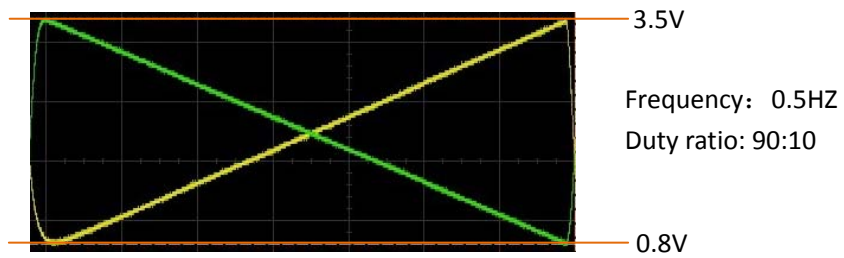
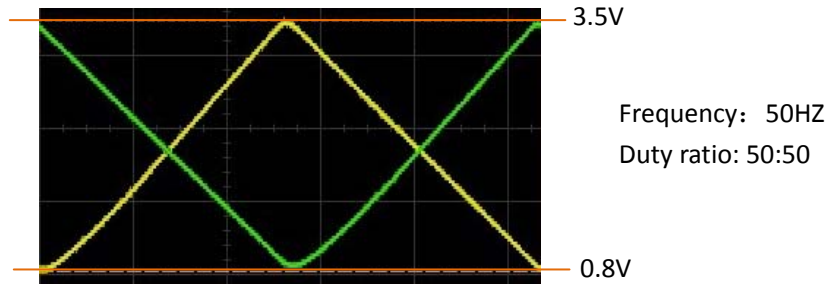
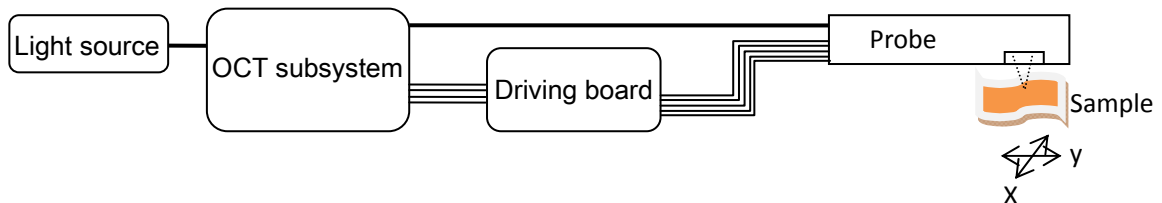
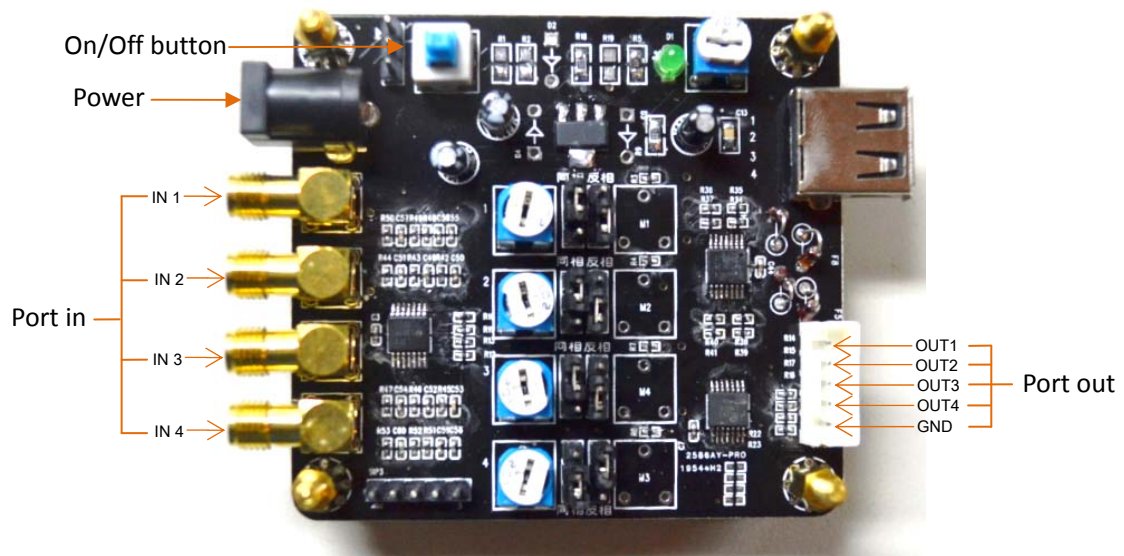

Fig. 3 Standard waveforms of A1 and A3 (A1 and A3 are out of phase)
Fig. 4 Standard waveforms of A2 and A4 (A2 and A4 are 180° out of phase)
Fig. 5 The use of the probe in an OCT system
Fig. 6 Driving control circuit board
2) At first, you need to generate four triangle or sine voltage waveforms, as shown in Fig. 3 and Fig. 4. This can be done either by a function generator or a data acquisition card. If you have any questions, please contact the technical support of WiO.
- 3) Here you have two choices. If you just want to check how the probe works, please skip step 4) and step 5), and directly connect the signals generate in step 2) to the probe. Please pay attention to the order of the signal lines. A1 and A3 should be connected to the voltage waveforms shown in Fig. 3, and A2 and A4 to the waveforms shown in Fig. 4.
- 4) If you want to connect this probe to an OCT system (as shown in Fig. 5), you can connect the four voltage waveforms to the ports IN 1-4 on the driving circuit board (as shown in Fig. 6). The functions of the driving circuit board include filtering, protection, voltage regulation, and gain control. Then connect the power adapter to the power port on the circuit board, and push down the On/Off button (it's on when the green light on the circuit board turns red). Check the output voltage waveforms from the ports OUT1-4 on the circuit board. The voltage waveforms of OUT1 and OUT3 should be the same as the ones shown in Fig. 3, and the voltage waveforms of OUT2 and OUT4 the same as in Fig. 4.